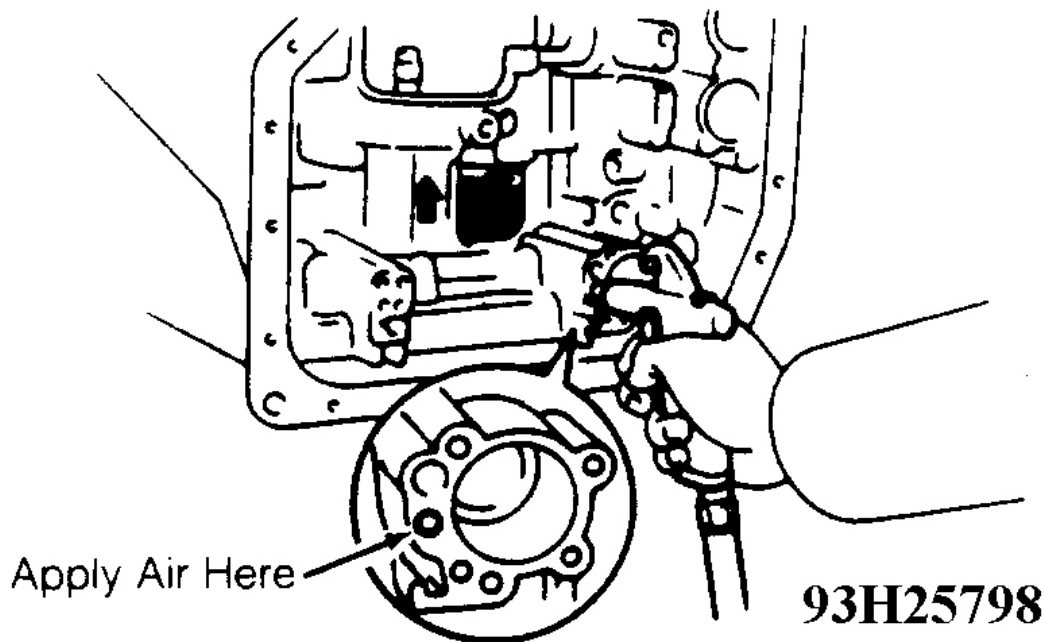

Fig. 58: Checking 1st & Reverse Brake Operation
11. Install 1st and reverse brake in case. Install inner flange with flat end facing upward. Install 6 discs and 5 plates. Start with disc, alternate with plate, ending with disc. Install outer flange with flat area facing inward. Install snap ring in groove. Ensure end gap does not align with case cutout. Using compressed air, confirm 1st and reverse brake piston moves smoothly. See **Fig. 58**.